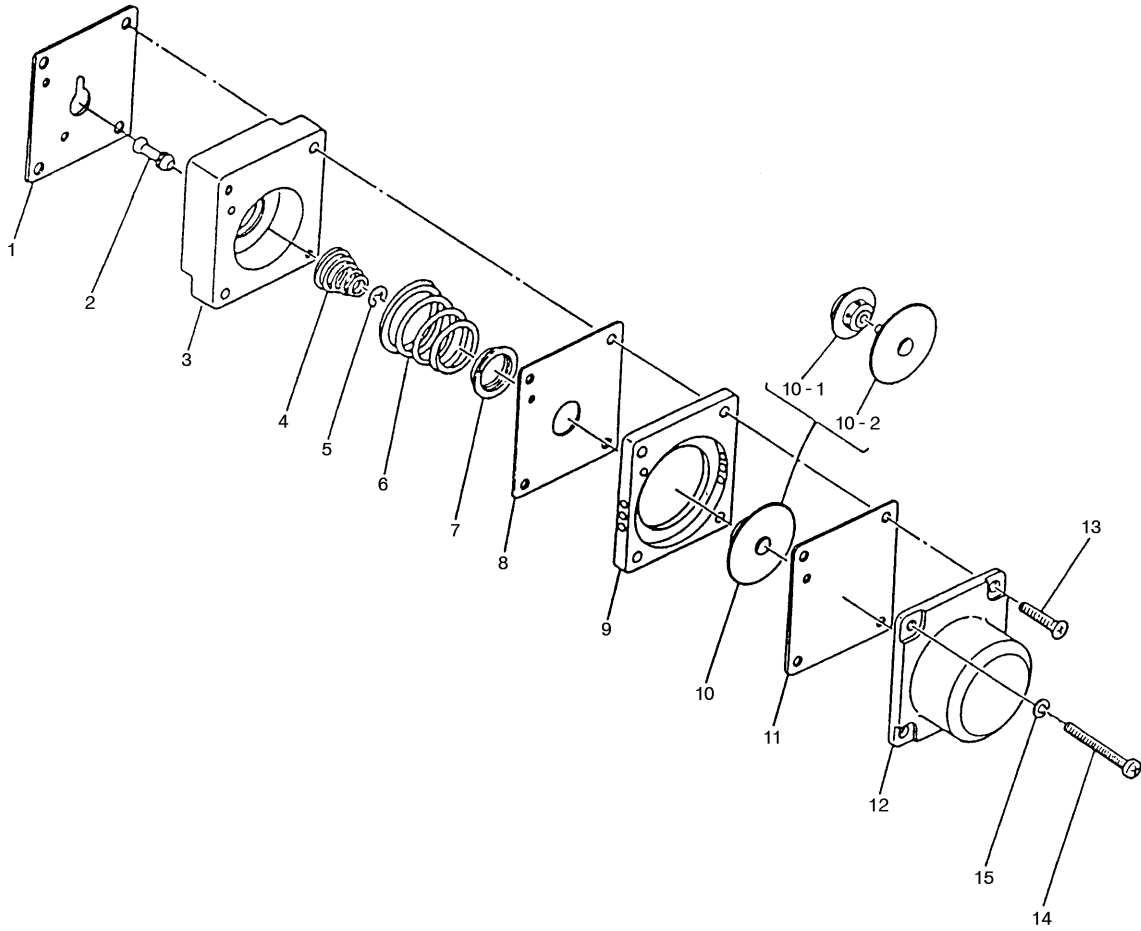

Figure 6-1 Pilot relay disassembled
- 4) Check the pilot relay (Figure 6-1)